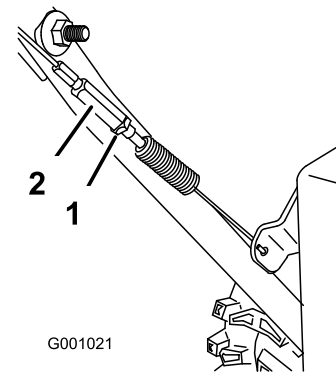

Figure 12
3. Tighten the jam nut (Figure 12).